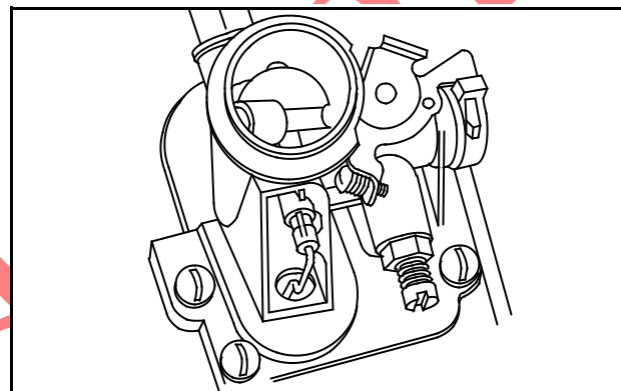

Fig. 46
1. Move choke plate to an over center position as shown in Fig. 46.